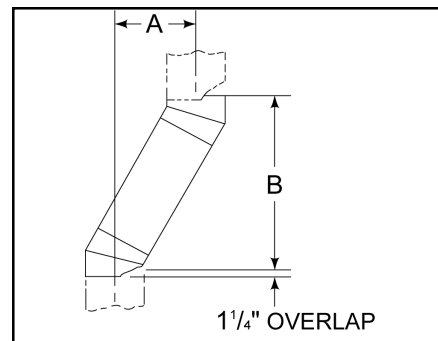

Figure 7 - Chimney Offset/Return
- 1) Measure how far the chimney needs to be shifted to enable it to avoid the overhead obstacle. See Figure 7, dimension "A" to determine chimney sections required to achieve the needed shift.
Example: Your "A" dimension from Figure 7 is 14¹/₂". Using Table 1 the dimension closest to, but not less than 14¹/₂" is 14⁵/₈" using a 30° offset/return. It is then determined from the table that you would need 33" (Dimension "B") between the offset and return. The chimney components that best fit your application are two SL1112s.